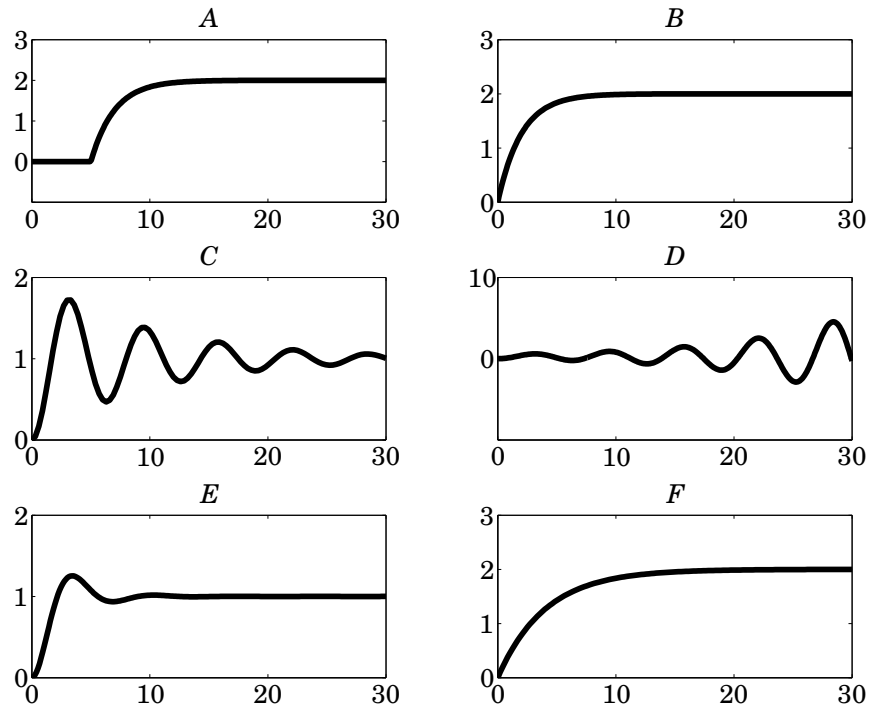

Figure 3 Step responses of six systems from Problem 4.
4. Below, four systems are presented by their differential equations. Their step responses from u to y are shown in Figure 3, together with the step responses of two unrelated systems. For each system (1–4), indicate which is the corresponding step response (A–F). Do not forget to motivate your choices.